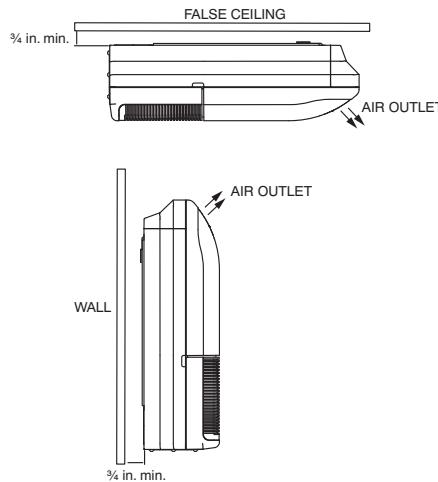

Fig. 4 — Spacing from Ceiling or Wall
- There should be adequate space between the false ceiling and unit top for under ceiling units, or between the wall and the back for floor units, for installation and maintenance (see Fig. 4).